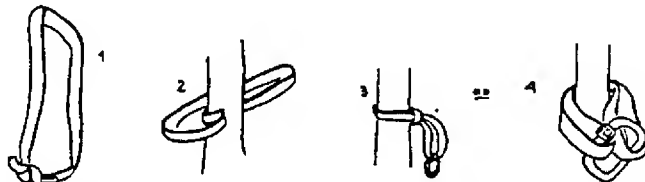

Figure 245 One Type of Anchor for Anchoring the Belayer
8. The belayer, himself, must be anchored to a permanent anchor, such as a tree. Another method of anchoring the belayer to his own anchor is to place a sling webbing around the anchor and attach it to the back of the belayer's seat harness with a snaplink, as seen in Figure 245.